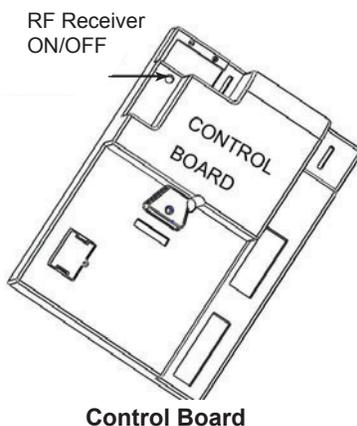

Figure 50
1. The RF receiver button on the control board in the fireplace must be in the on position before the learn function can begin. *Figure 50* With the Command Center master switch in the ON position, use paper clip to depress the recessed button on Control Board, one beep for RF receiver ON or two beeps for RF receiver OFF.